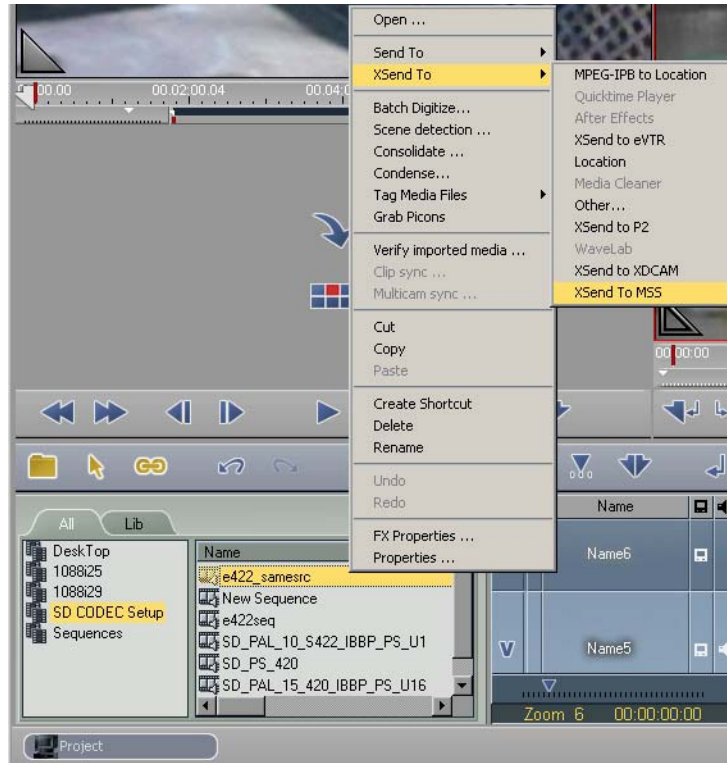

Figure 3-36: XSend Menu
1. To XSend a sequence, right-click the sequence and select XSendTo. From the submenu that appears, select XSendToMSS (see Figure 3-36 on page 36).